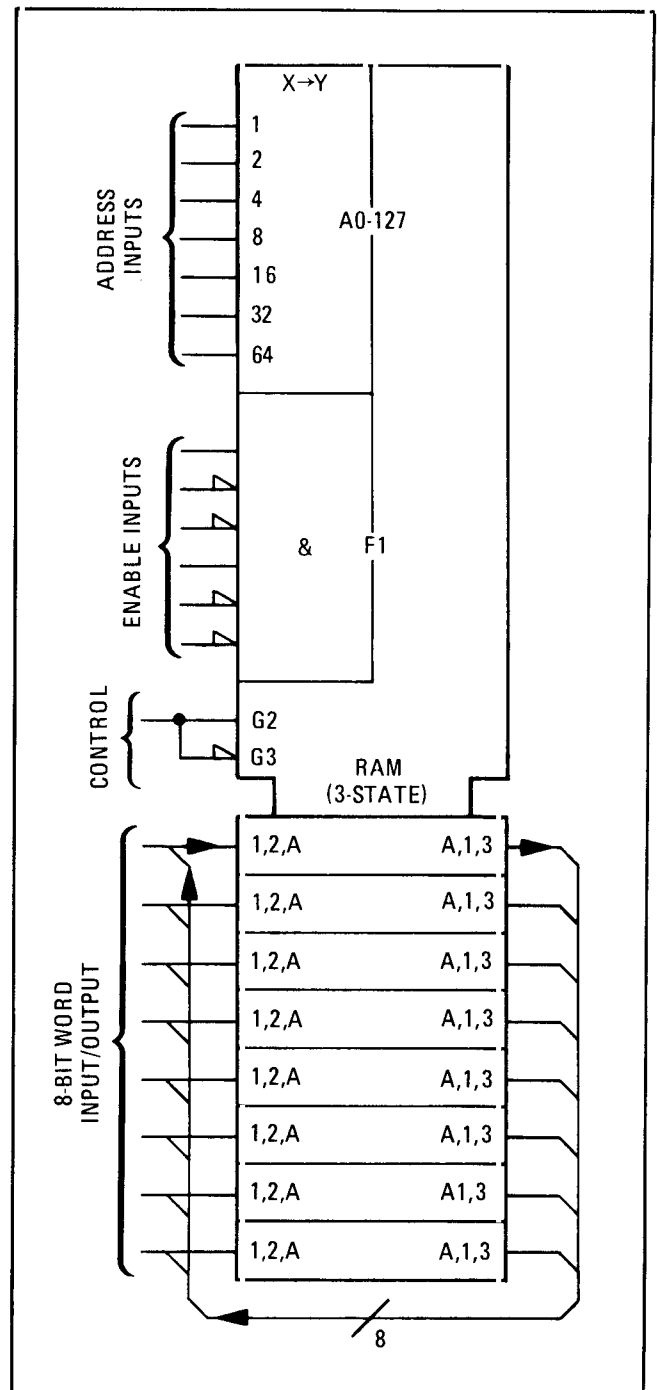

Figure 8-20. Random Access Memory
**Random Access Memory.** Refer to Figure 8-20. This device provides temporary storage for up to 128 eight-bit words. Memory words are addressed on the address bus. When G2 is high, data is written into memory; when G3 is low, data is read from